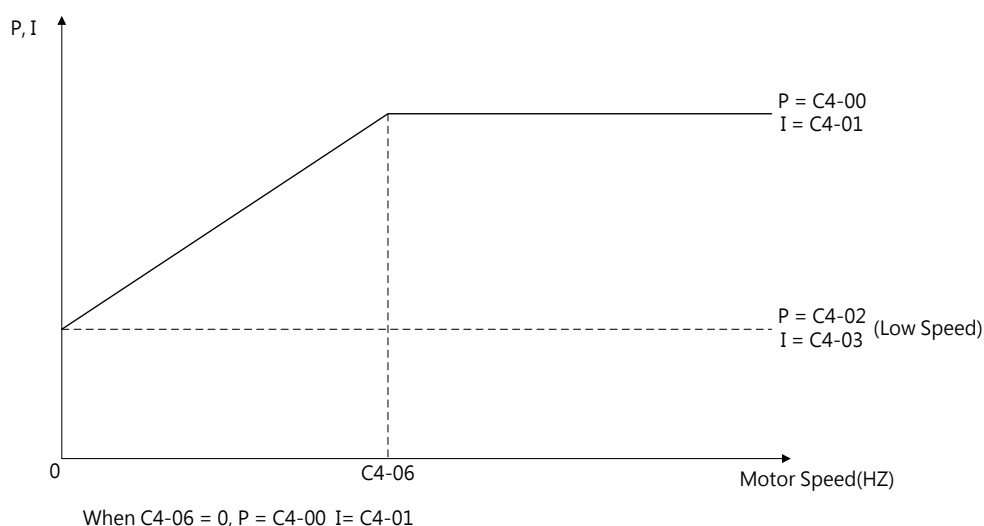

Figure 6.29 Switching Gain of High/ Low Speed
Switch the gain of high speed and low speed if resonance occurs during high or low speed operation. Figure 6.29 illustrates how the motor speed switches the proportional gain (P) and integral time (I).